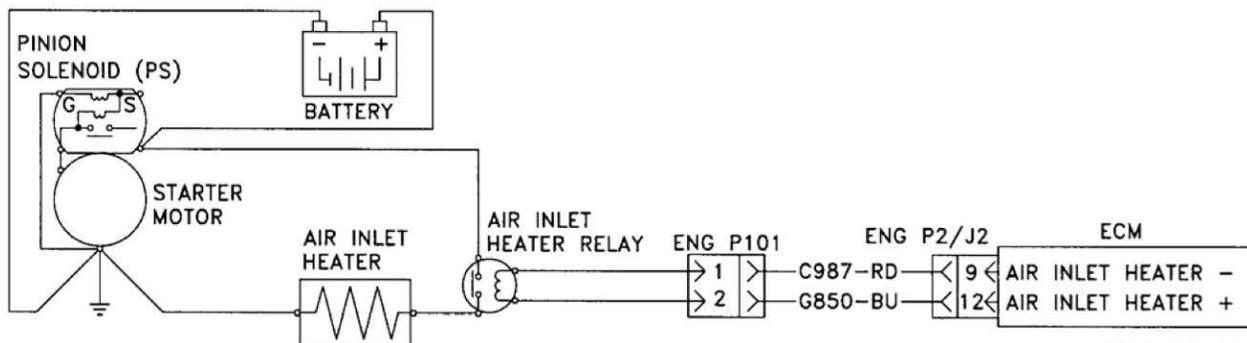

Figure 1. Air Inlet Heater Relay Circuit.
Use this procedure to troubleshoot any suspect problems with the air inlet heater circuit (Figure 1). This procedure augments Unit (Field) procedures for the following diagnostic codes displayed on the GSC:
- b. Connect a voltmeter between the wire from the +battery terminal of the air inlet heater relay and engine ground (Figure 1).
- (1) If the voltmeter indicates zero volts, ensure that the circuit breaker is not tripped.
- (2) Check the harness from the battery to the air inlet heater relay. Make any necessary repairs (WP 0096).
- (3) Retest and ensure the voltmeter measures 24 ± 3.0 VDC.
- c. Connect a voltmeter between the output terminal of the air inlet heater relay and engine ground (Figure 1).
- STEP 11. If the problem is not resolved, check the wiring between the air inlet heater relay and the air inlet heater (Figure 1).